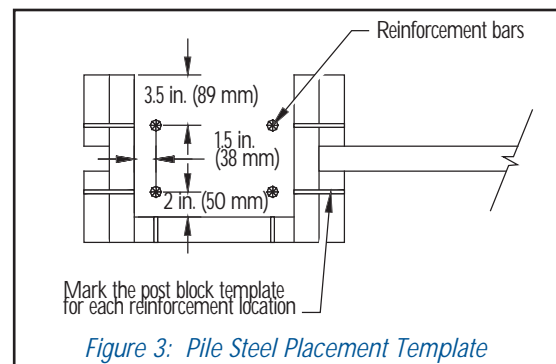

Figure 3: Pile Steel Placement Template
- Mark the pile steel placement template similar to *Figure 3* for placing steel reinforcement during the pile pour.
- Place the vertical steel reinforcement bar using the placement template shown in *Figure 3*. Pay close attention to make sure that the center of the template is at the center of the AB Fence post and square to the adjacent AB Fence post. This can be done using offsets and string lines.